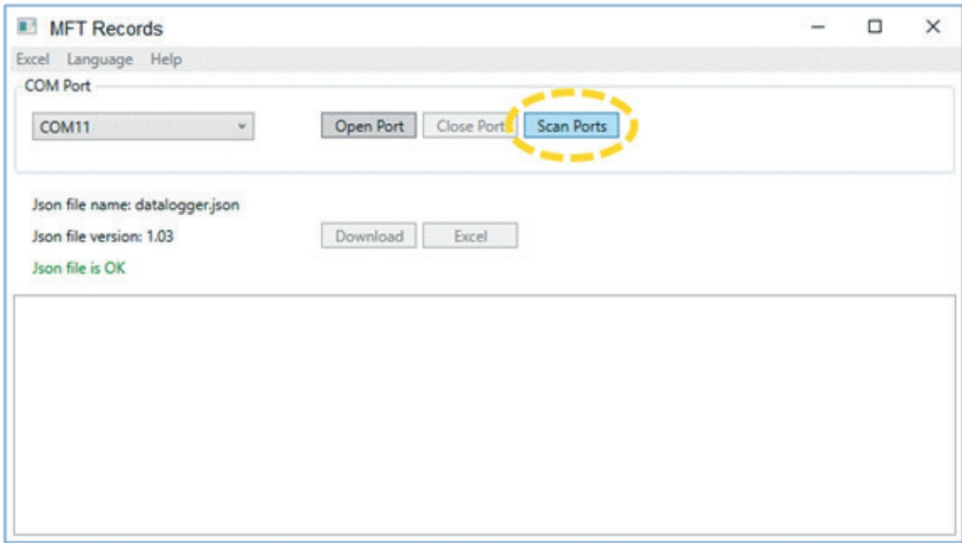

Figure 8.1: Scanning Ports
**Step 4** Once the software is opened, you should follow the next instructions. Click on Scan Ports (Figure 8.1)